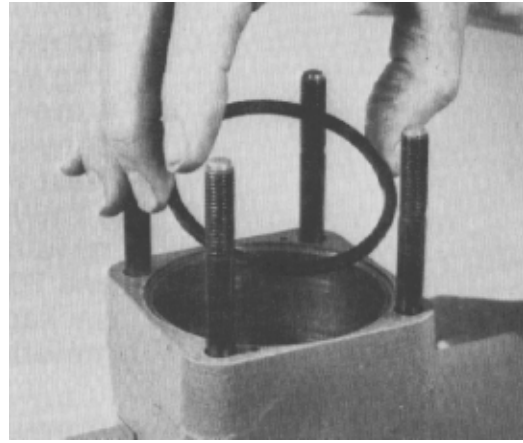

Figure 106
25. Put the bearing spacer onto the face of the upper cover plate (Fig. 106).